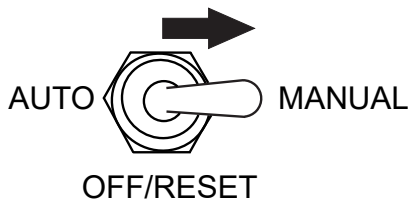

Figure 103. Auto Start/Stop Switch (Manual Position)
2. While keeping the **Hour Check button** pressed, place the **Auto Start/Stop switch** (Figure 103) in the **MANUAL** position.